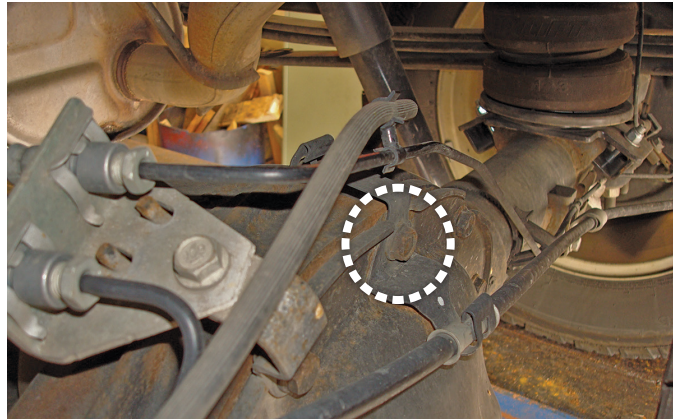

fig. 7
9. Relocate the emergency brake cable that is held by a bracket on the top of the axle center carrier section of the rear end (fig. 7).
10. Remove the top bolt that holds the emergency brake cable bracket onto the center section of the differential cover (fig. 7).
11. Remove the bracket from the emergency brake cable and discard (fig. 7).